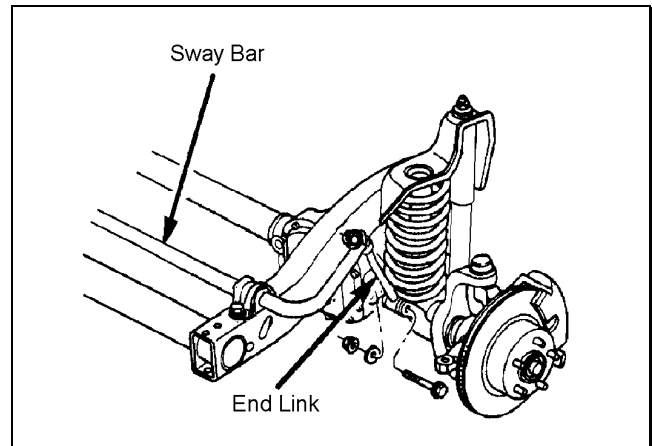

Figure 3
- 8) Position a floor jack under the front axle for support. Remove both front sway bar end links. See Figure 3.